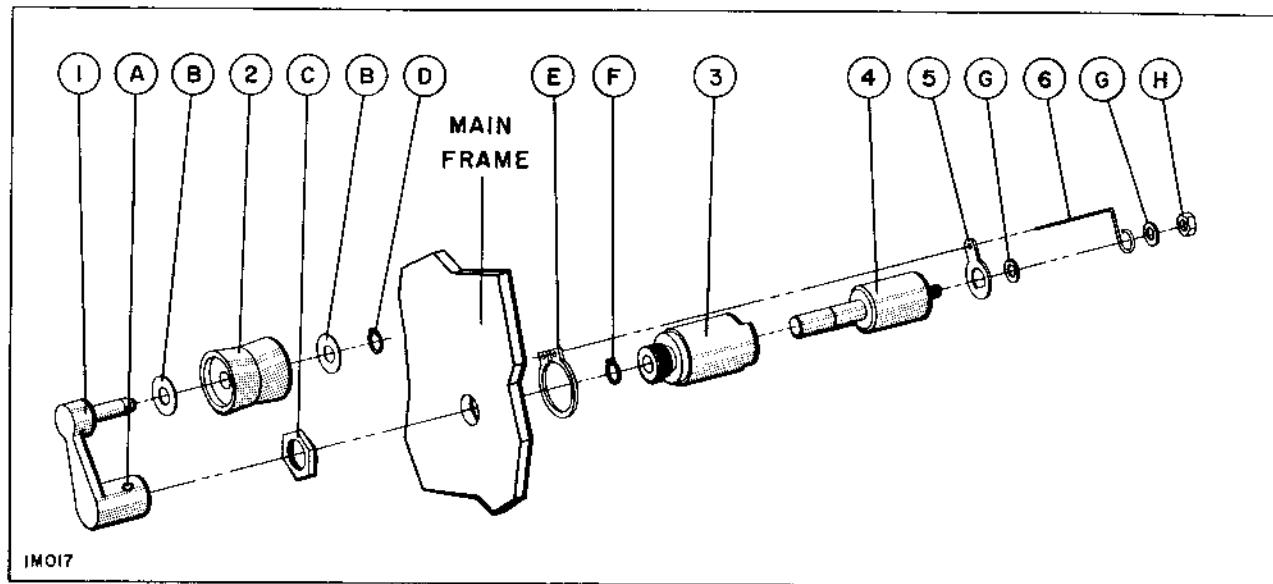

Figure 18
1. To remove tension arm (1) loosen setscrew (A) and slide arm from shaft (figure 18).
2. To remove roller, remove retaining ring (D). When installing roller onto shaft, place washers (B) on each end and place deeper cavity end of roller on shaft first.
4. Remove nut (C) on front of frame and remove assembly from rear of projector.
5. To disassemble damper, remove retaining ring (F) and slide rotor (4) out of sleeve (3).
6. Remove nut (H) to remove spring (6).
8. When reassembling damper, make certain that flat on shaft of rotor (4) and one of cutouts on sleeve (3) are aligned.
9. Install spring locking washer (5) and tension spring